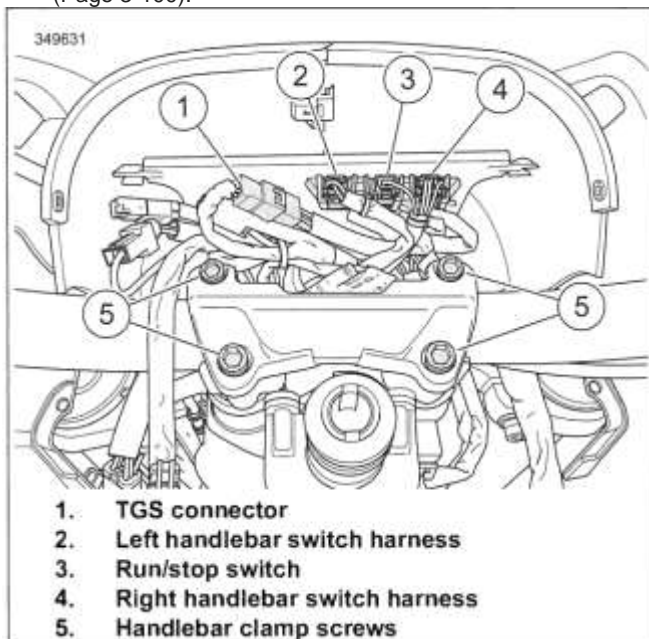

Figure 3-144. Handlebar Harness Connectors: Frame-Mounted Fairing Models
2. See Figure 3-144. Separate TGS connector (1).
7. See Figure 3-144. Connect TGS harness (1).